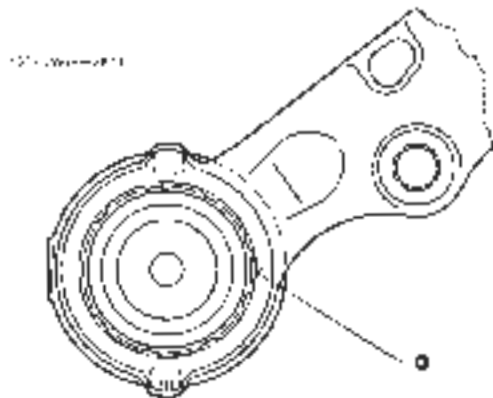

Fig. 7-13. Peened ball joint cover. Cover material is expanded as indicated by a
- Using suitable mandrels and adaptors, install peening tool VW 471 on the press ram. Peen the ball joint cover to obtain the pattern indicated by a in Fig. 7-13.